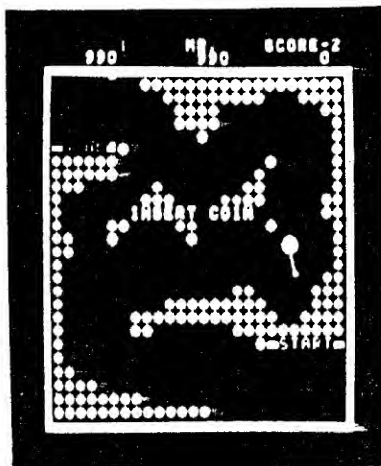

Fig. 15
- ② The LEVEL-1 display will appear and the characters "INSERT COIN" at the top of the center part of the screen will flash. The computer controlled balloon will move through the field from the START position to the goal (Fig. 15).
- ③ When the balloon enters the goal, the display of "1" will reappear.